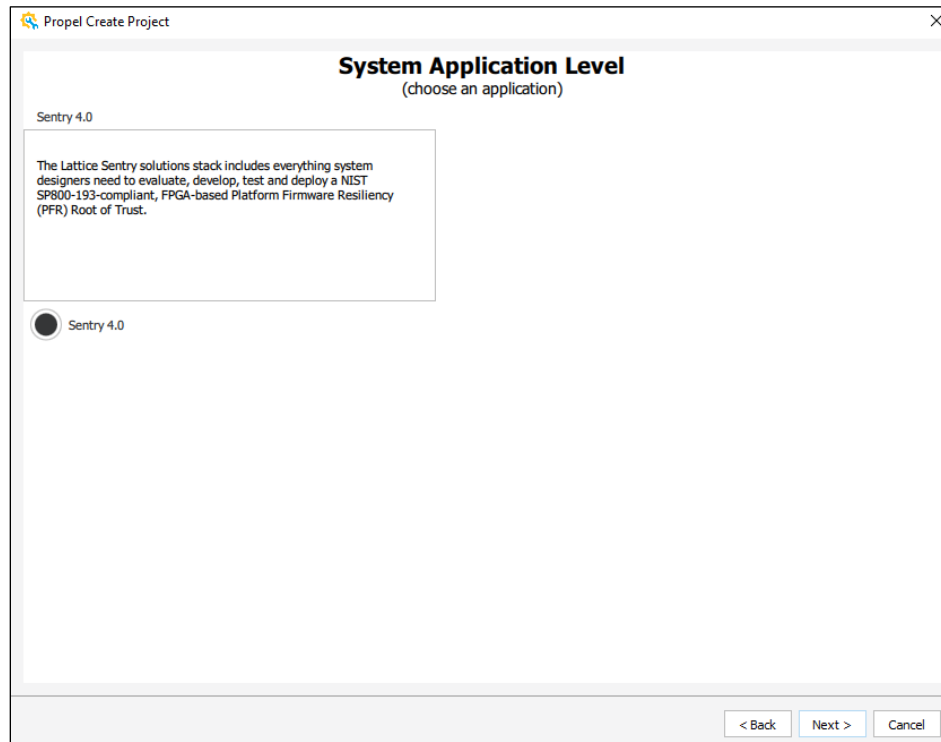

Figure 4.5. Create SoC Project – Select Application
7. Make sure the solution is Sentry 4.0. Then, click **Next** (Figure 4.5).